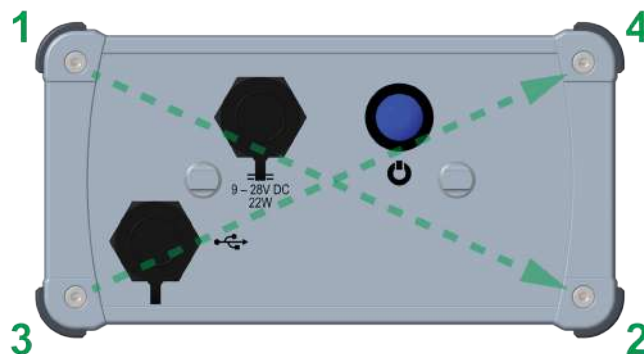

Figure 26: Sequence for screw reinstallation
- a. Reinstall the four screws in the sequence shown in Figure 26 . and lightly thread. For the first pass, torque to 2 inch-pounds. For the final pass, torque to 2.7...3.1 inch-pounds. Be sure not to cross-thread or overtighten.